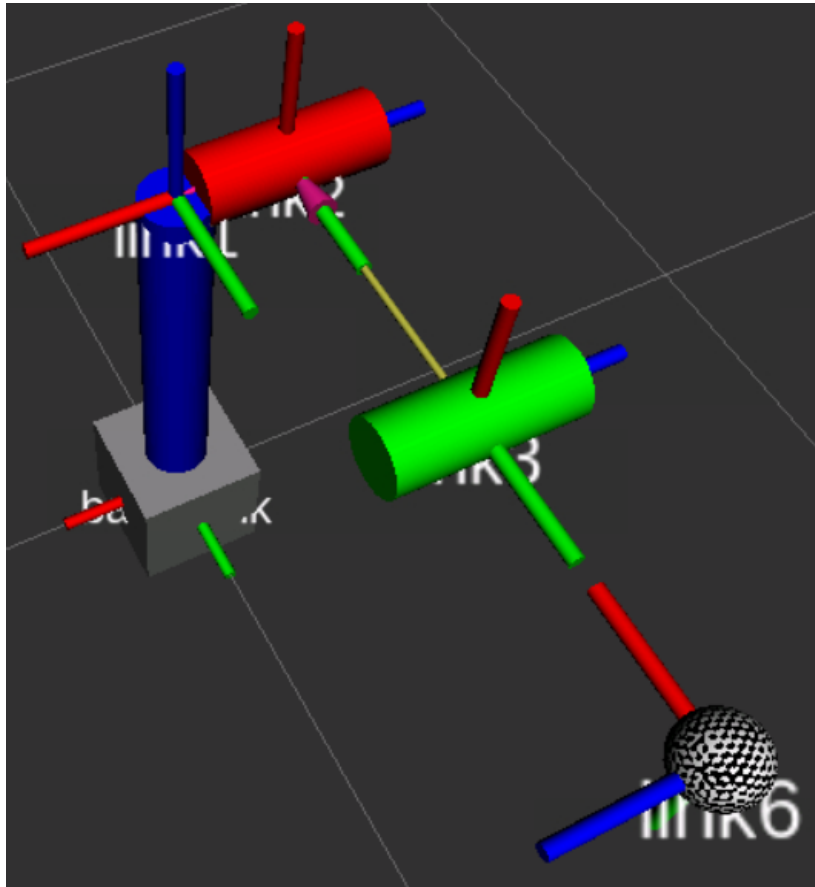

Figure 2: PUMA robot in its zero position.
2. **(10 marks)** The PUMA robot of Figure 2 is shown in its zero position.